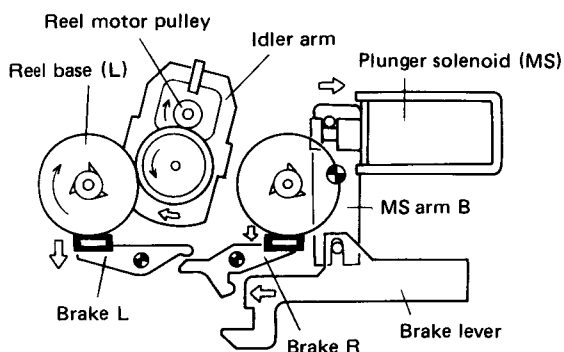

Fig. 4-9 Rewind operation with MS mechanism
Apart from the reel motor rotation being reversed (clockwise) and reel base (L) being rotated (Fig. 4-9 or Fig. 4-10), rewind operation is the same as fast forward operation.